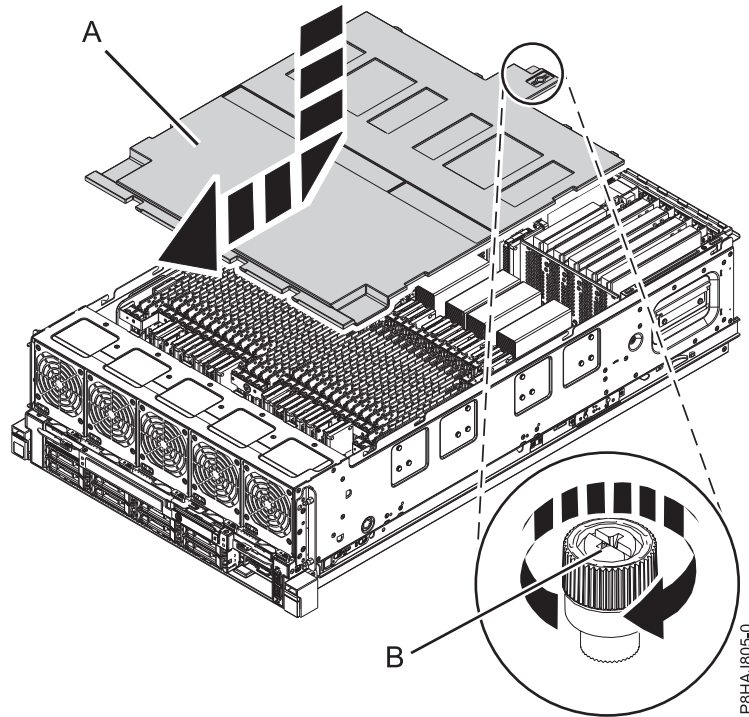

Figure 13. Replacing the safety cover
2. Push the safety cover (A) toward the chassis.
3. Tighten the thumbscrew (B) by turning it in the direction shown in Figure 13 on page 33 to fix the safety cover to the chassis.